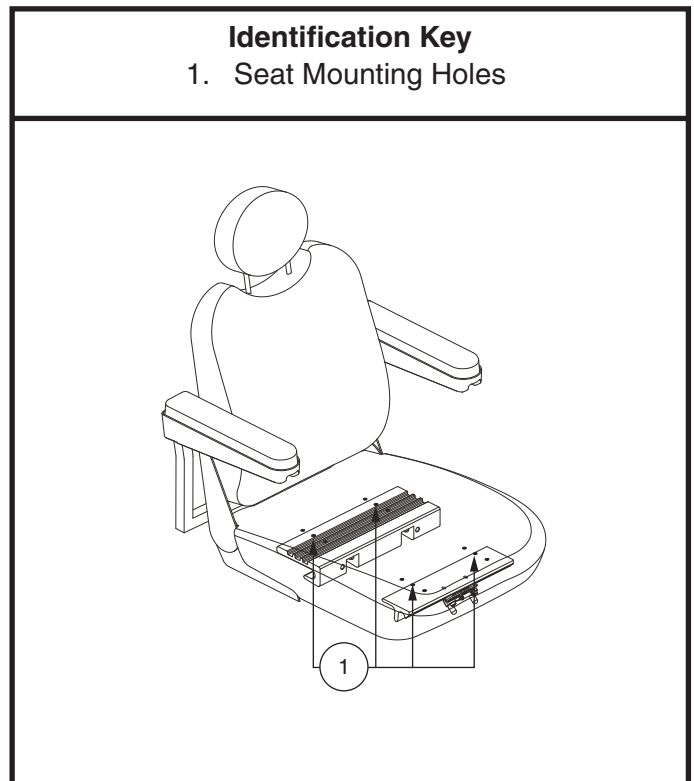

Figure 12. Seat Position Adjustment for Contour Seat
6. Reposition the extrusions on a different set of mounting holes. You must move both extrusions the same number of holes either forward or backwards. **See figure 12.**